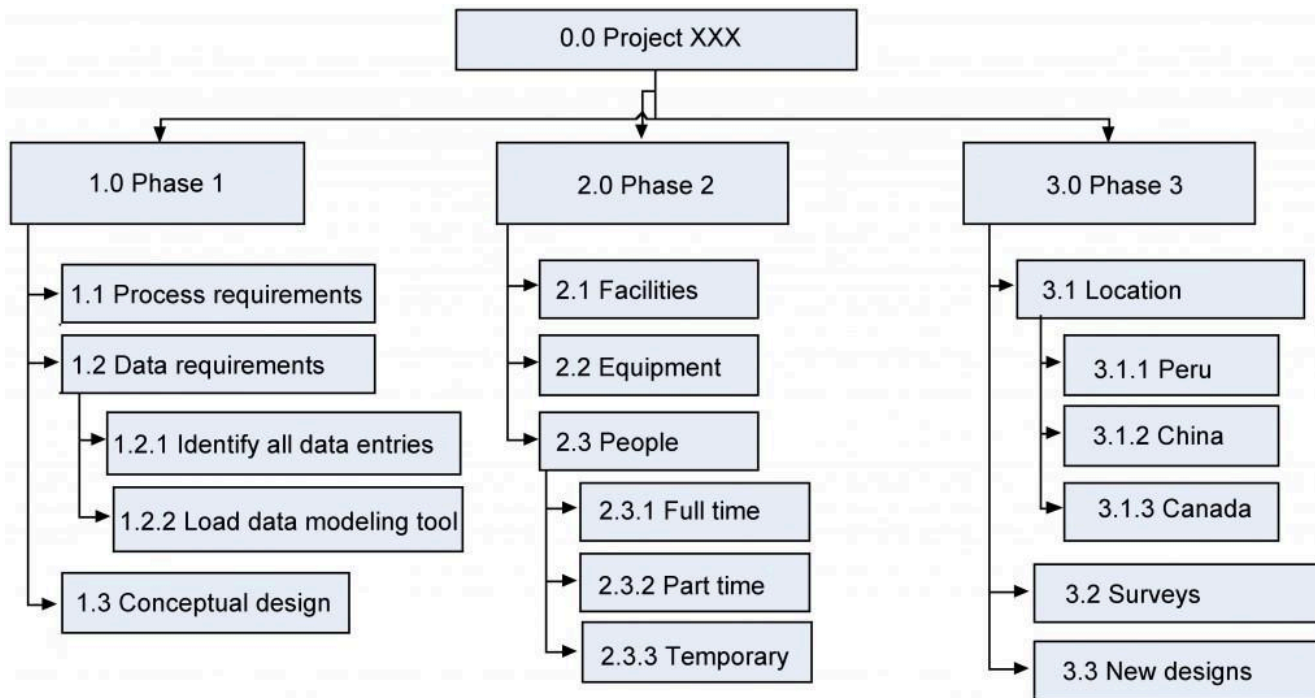

Figure 8.5: WBS Project Phases
- Figure 8.5 WBS Project Phases © Barron & Barron Project Management for Scientists and